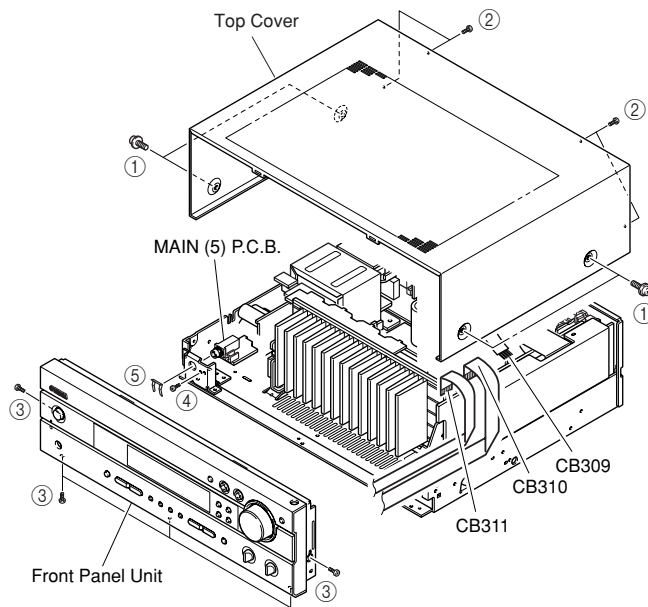

Fig. 1
- Remove 4 screws (1) and 4 screws (2). (Fig. 1)
- Slide the Top Cover rearward to remove it. (Fig. 1)
- Remove 5 screws (3) and then remove the Front Panel Unit. (Fig. 1)
- Remove CB309~311. (Fig. 1)
- Remove 1 screw (4) and then remove the Jack Stopper (5) upward. (Fig. 1)
- Remove the MAIN (5) P.C.B.. (Fig. 1)